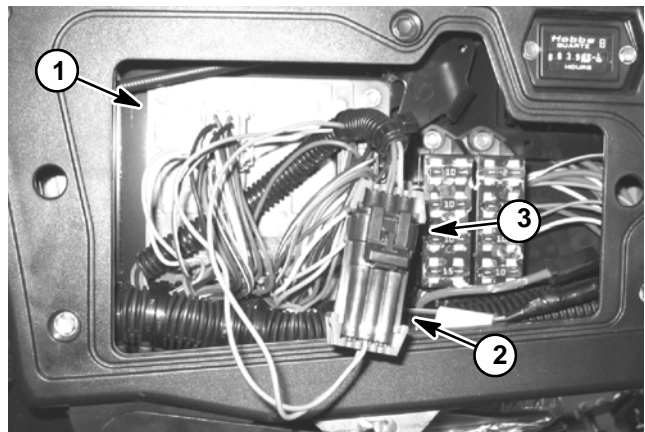

Figure 8
2. Open control panel cover. Locate wire harness and connectors near ECM. Carefully unplug loop back connector from harness connector (Fig. 8).